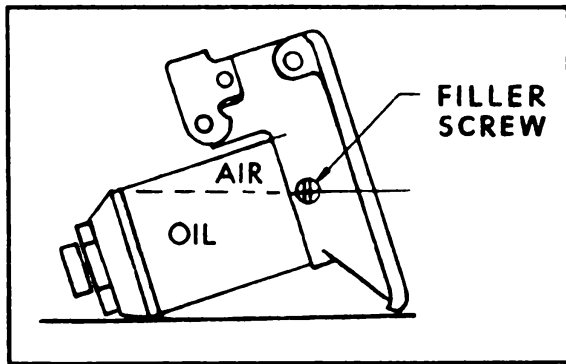

FIGURE 66. JACK-TILTED
3. OIL.—*a.* In case of jack failure, first determine whether or not oil level is up to filler screw hole (Figure 66). To do this lower ram and tilt jack.